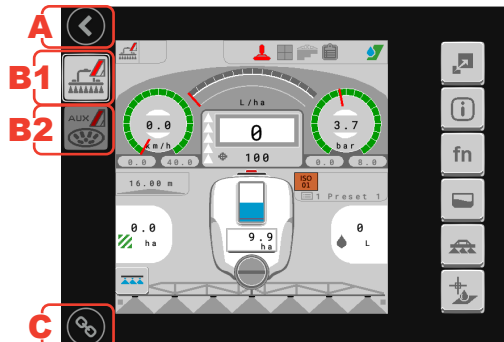

Fig. 108
- Press icon **C**  of the Fig. 108 (the icon background turns from dark to light .